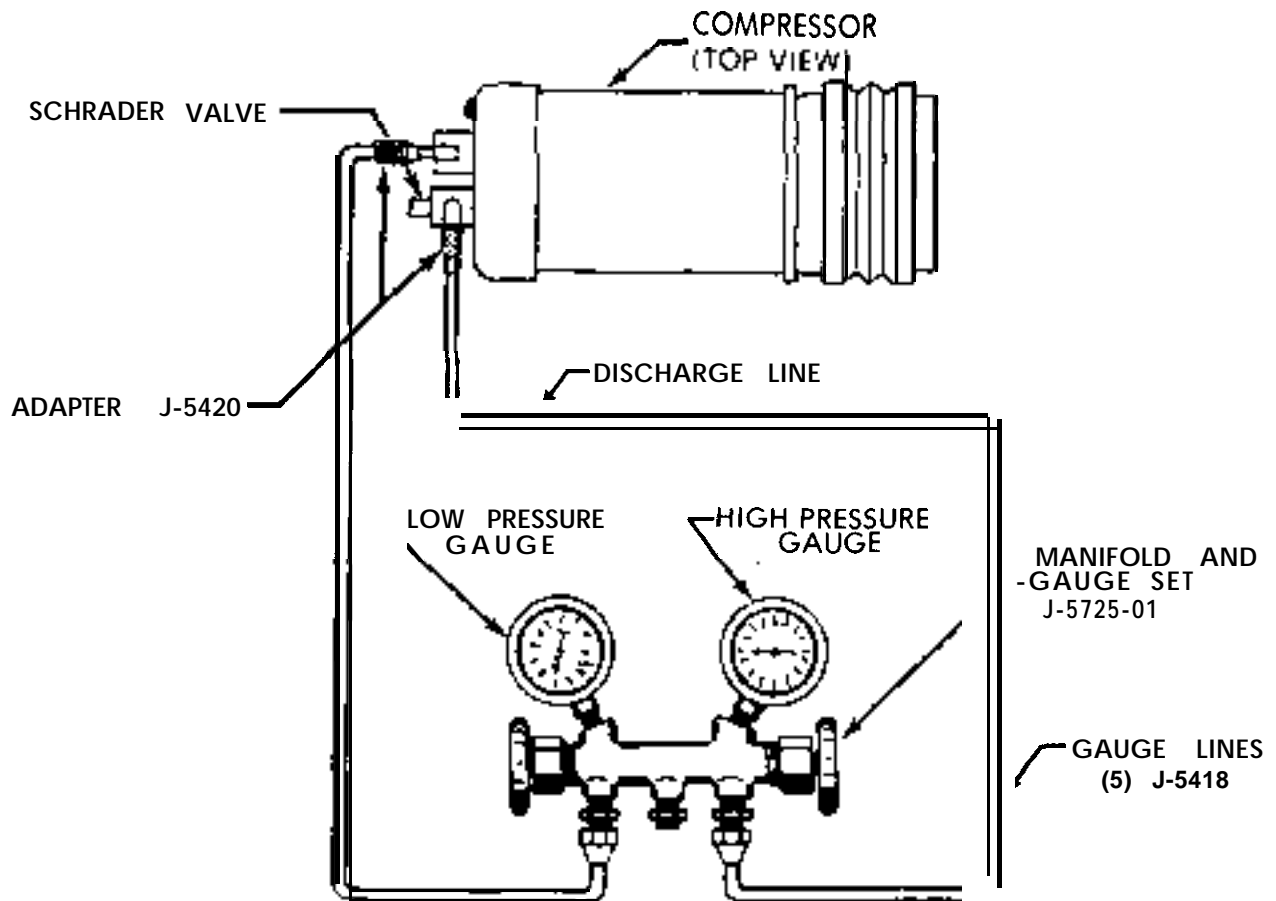

Figure 9B-40 Functional Test Set-Up
2. Interconnect manifold and gage set (J-5725-01), gage charging lines (J-5418) and gage adapters (J-5420) to air conditioning system as shown in Figure 9B-40.
6. Run engine at 2000 RPM for ten (10) minutes with car doors and windows closed and the hood up. Place a high volume industrial type fan in front of radiator if head pressure should exceed 250 psi and also at high ambients to bring the pressures to within the limits specified in the Functional Charts in Division V.